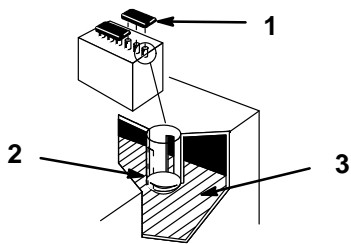

Figure 49
1. Open covers to see into the cells. The electrolyte must be up to the lower part of the tube (Fig. 49). Do not allow the electrolyte to get below the plates. (Fig. 49).
2. Lift off the filler caps (Fig. 49).
3. Slowly pour distilled water into each battery cell until the level is up to the lower part of the tube (Fig. 49).